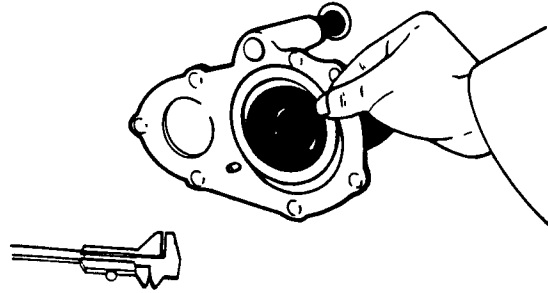

Fig H1.30
- (4) Refer to Fig H1.30. The difference between the measurements taken in steps (2) and (3) must be made up by the adjusting washers. The washers' thickness must be the calculated difference plus up to 0,10 mm, this being the maximum load which must be given to the bearing.